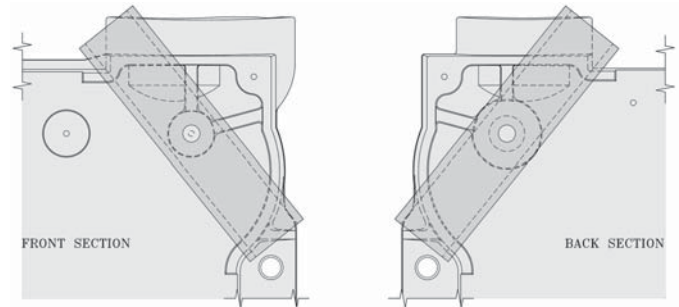
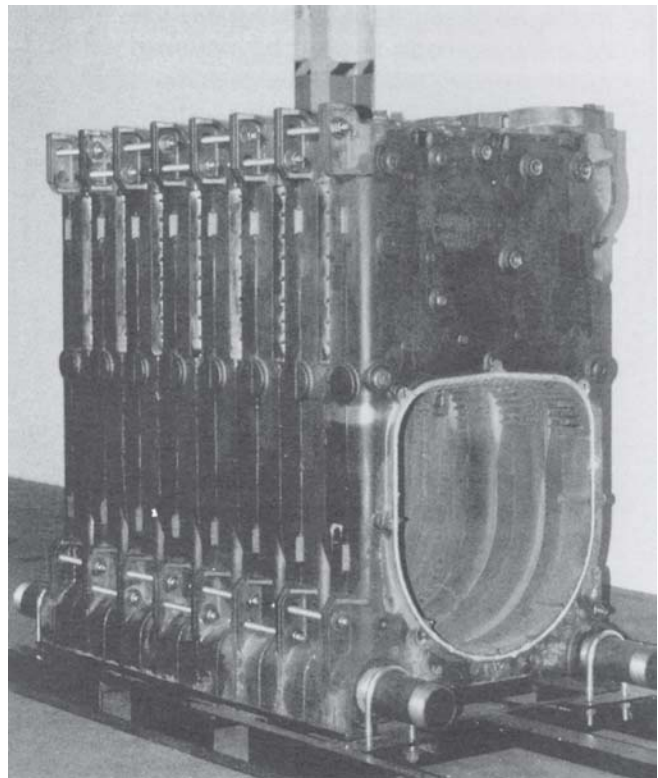

Figure 10: Front and Rear Section Channel Block Positions (Hydraulic Draw-up)
Figure 13: Boiler Section Assembly
- d. Place a 3" x 12" lg. steel channel on each end of the upper draw-up rod and a 3" x 8½" lg. steel channel on each end of the lower draw-up rods. Refer to Figures 10 and 11 for proper placement of channel block during assembly procedures. Install nuts and washers on one end of the draw-up rods and the hydraulic rams, washers and draw-up rod clamps on the other. These items are all located in the Draw-Up Kit. See Figure 13.